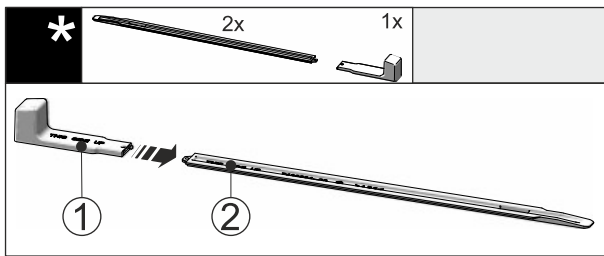

Fig. 48
▶ Attach the installation handle Fig. 48 (1) to the levelling rail Fig. 48 (2).